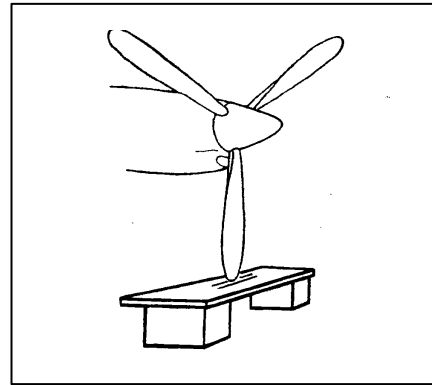

Figure 6-2
- (8) Check the blade track as follows (see figure 6-2):